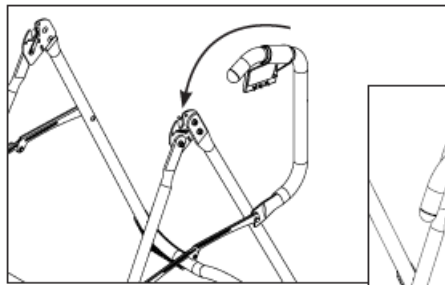

Figure 6
- Figure 6 & 6a: Keeping the lower handle portion seated onto the Spacer, align the upper handle portion's black plastic part over the outside edge of the Hinge Plate on the A-Frame.